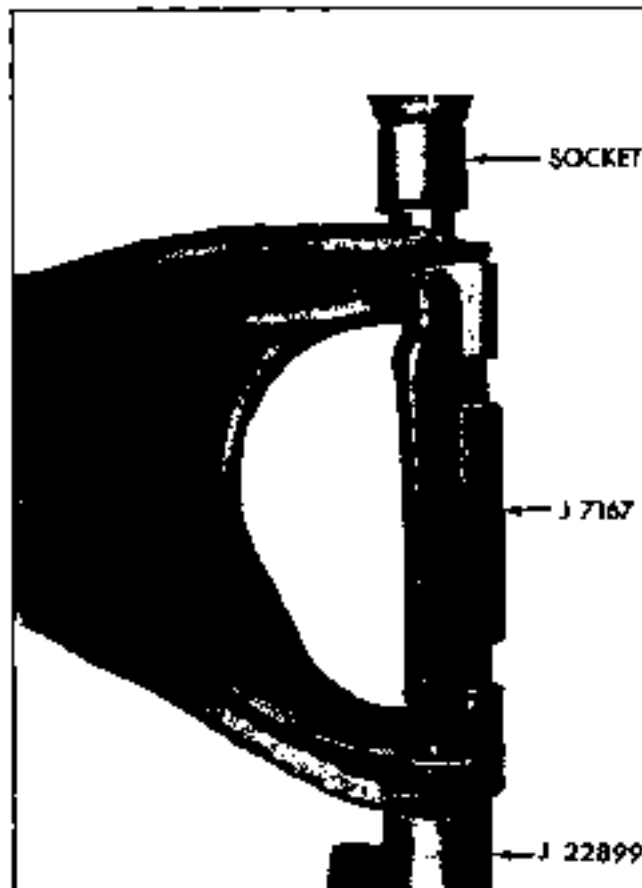

Fig. 3-17 Installing Upper Control Arm Bushing Except Firebird
a. Place tool J 7167 in position as shown in Fig. 3-17 and expand until tool is snug between inner faces of arm.
d. Press bushings in control arm with arbor press, using two large sockets or J 22899 for installers (Fig. 3-17).